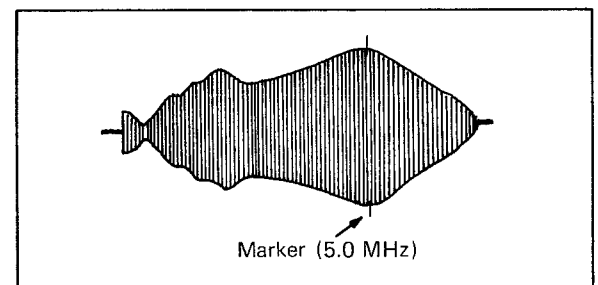

Fig. 6-19 RF signal
3. Adjust C18 (CH-1 Fo ADJ.) so that the peak resonance at the marker (5.0 MHz) becomes as shown in Fig. 6-19.